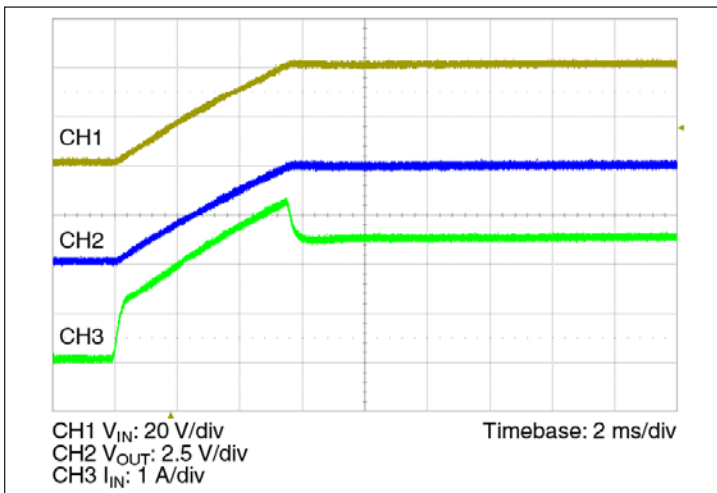

Figure 13 — Start up from application of  $V_{IN}$ ;  $V_C$  pre-applied  $C_{OUT} = 0 \mu\text{F}$
- **Normal Operation (VC applied prior to VIN):** In this case the controller is active prior to ramping the input. When the input voltage is applied, the VTM output voltage will track the input (See Figure 13). The inrush current is determined by the input voltage rate of rise and output capacitance. If the VC voltage is removed prior to the input reaching 26 V, the VTM module may shut down.